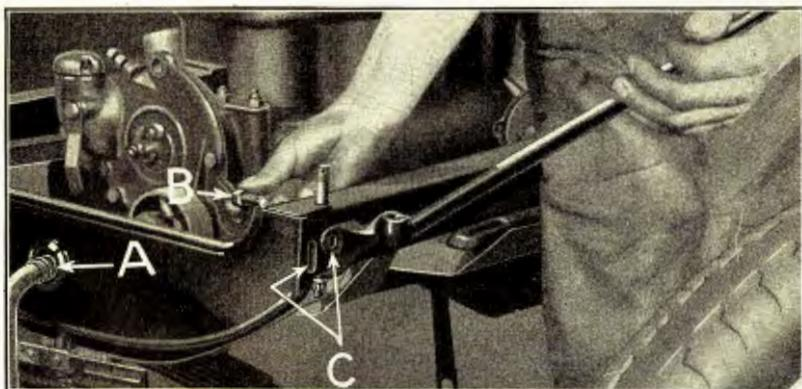

Fig. 90
- 109 Install radiator apron** by slipping apron over starting crank handle (See "A" Fig. 90).